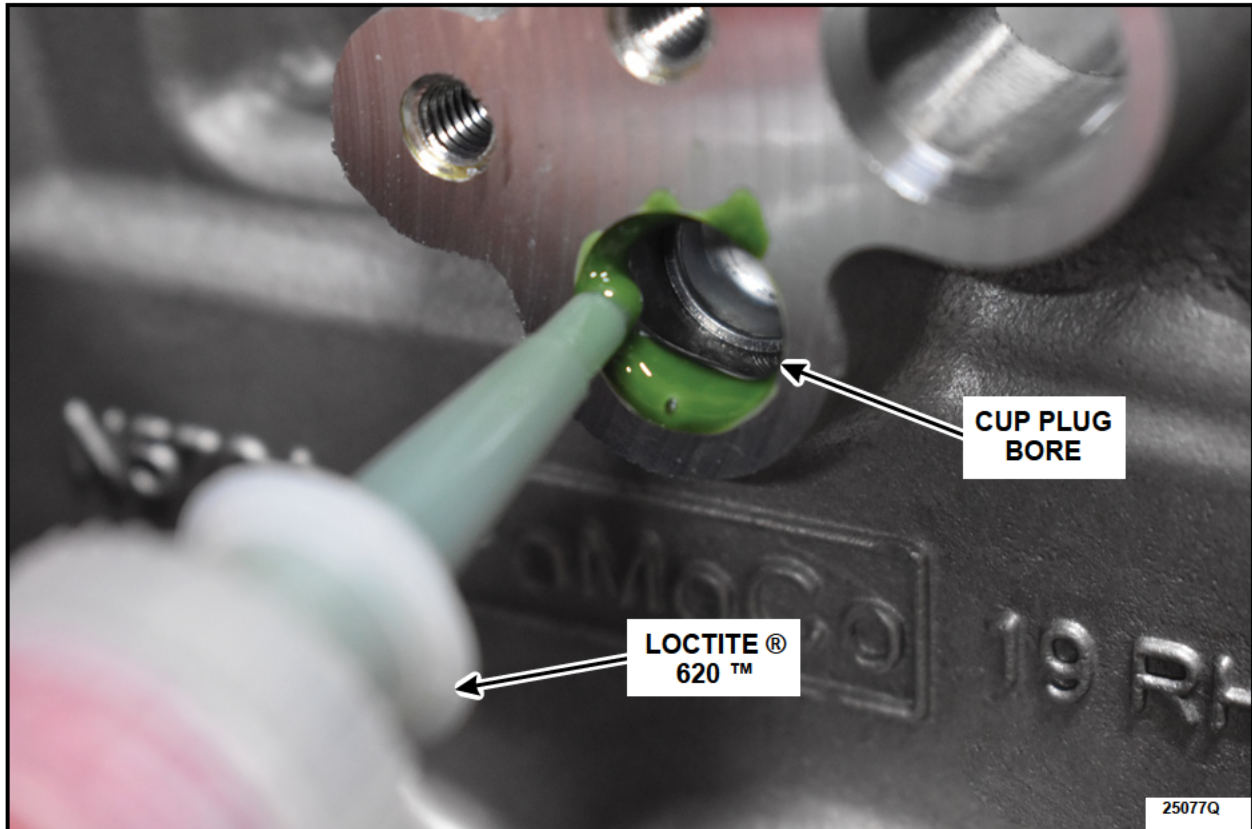

FIGURE 26
8. Apply Loctite® 620™ to the inside of the cylinder head cup plug bore. See Figure 26.